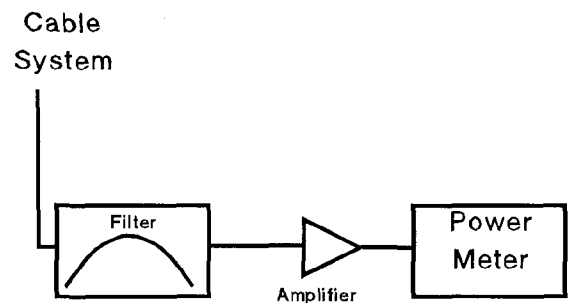

Fig 3 - Real World Setup
Why don't we normally measure C/N with the Figure 3 setup? There are several reasons:
1. The setup in Figure 3 does not provide for a way to adjust a tunable bandpass filter.